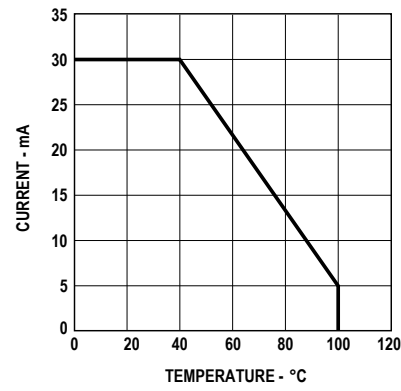

Figure 4. Maximum forward current vs. ambient temperature. Derated based on $T_{j,MAX} = 110^{\circ}C$, $R_{\theta JA} = 500^{\circ}C/W$.
1. Derate linearly as shown in Figure 4.